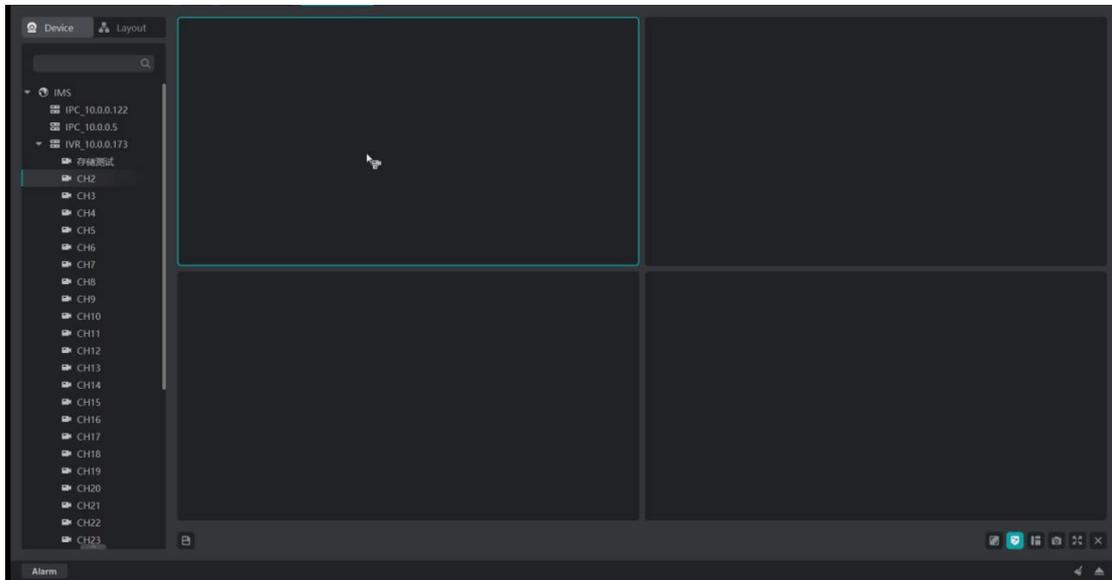

Figure 5-4
- 3 select [master stream] or [substream], as shown in figure 5-4